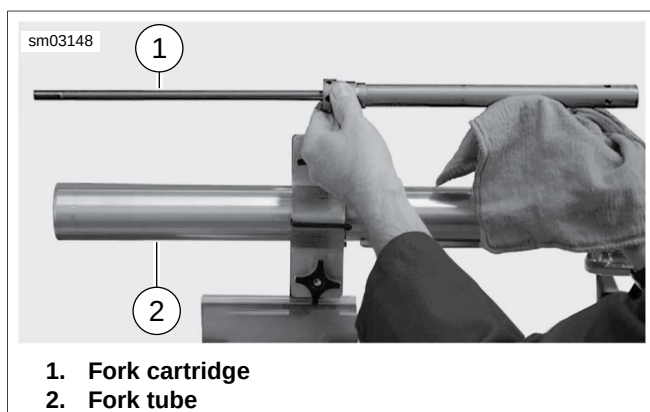

Figure 2-183. Install Fork Cartridge
3. See Figure 2-183. Using FRONT FORK TUBE HOLDER (Part No. HD-41177), mount fork assembly in vise.